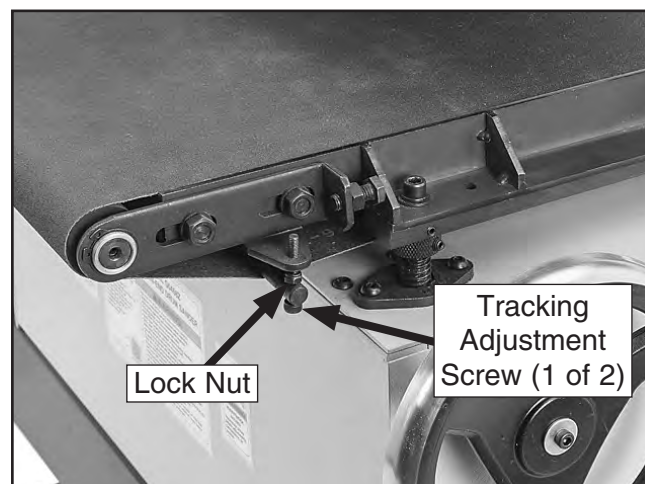

Figure 38. Conveyor fine tracking controls.
3. Loosen lock nut (see **Figure 38**) on side that conveyor belt tracks towards and tension tracking adjustment screw until conveyor belt tracks in opposite direction.